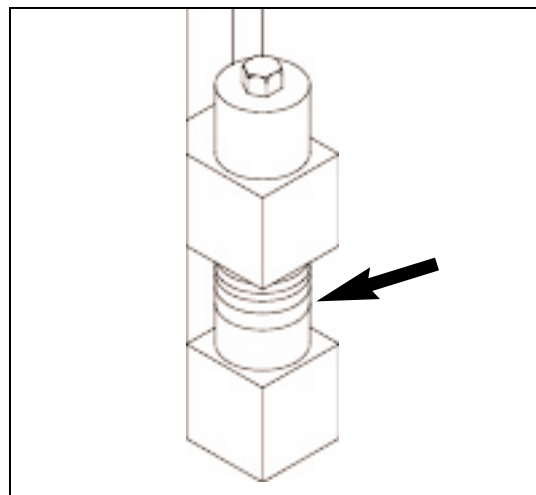

Figure 4.57 63mm (2 1/2") OF SPACERS
- e. Store spacers on bottom side of bolt for front bolts and left hand rear bolt. For right hand rear bolt store spacers on top. Tighten bolts at all 4 corners that secure mold throat plate spacers (see figure 4.57).